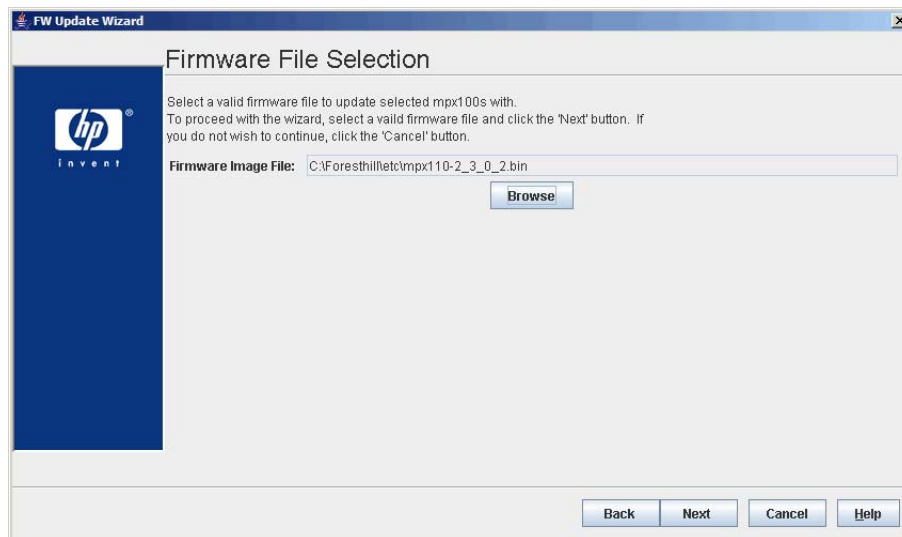

Figure 32 Firmware file selection dialog box
2. The **Firmware File Selection** dialog box displays, see Figure 32.